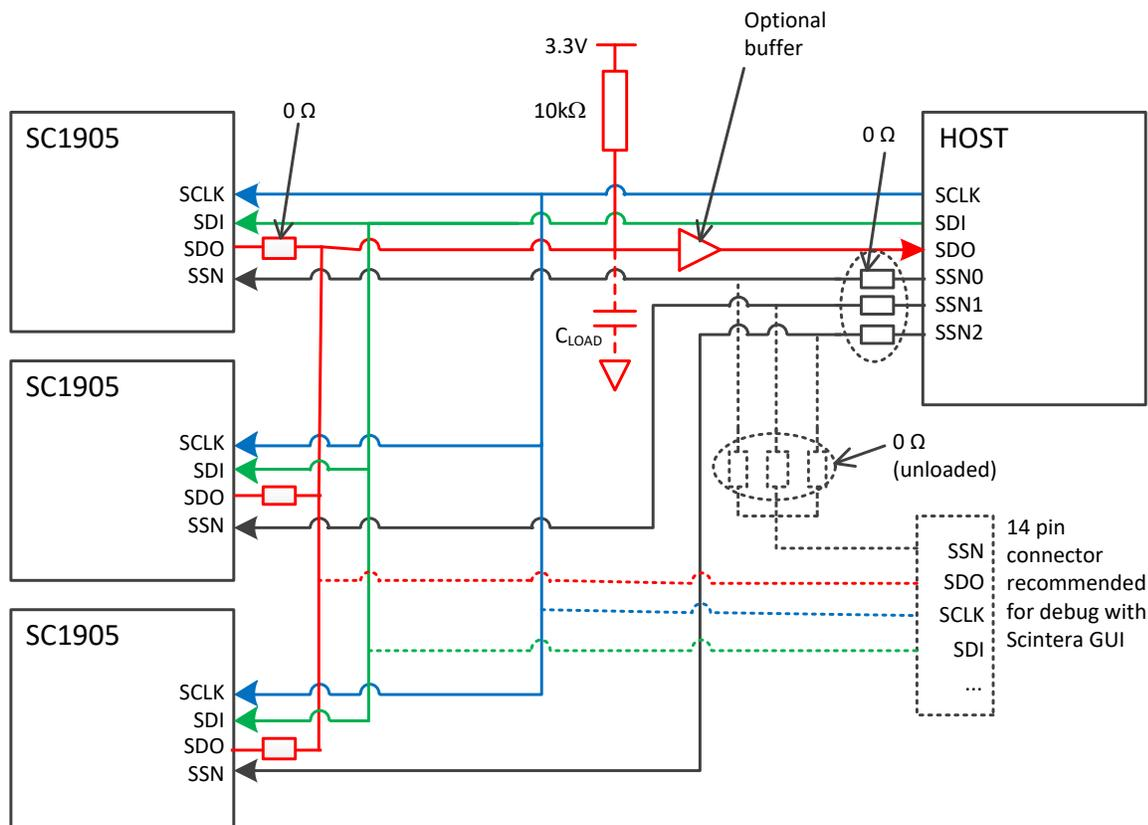

Figure 23. Host SPI connection for multiple SC1905 applications.
The SDI, SDO and SCLK signals can be shared amongst several SC1905 (**Figure 23**). One SSN per SC1905 is needed to communicate with a single linearizer. Special care must be taken when connecting long PCB traces at the SDO output since the capacitance ( $C_{LOAD}$ ) increases. Refer to section 9.2.6 to calculate the maximum speed at which the SDO pins can be read (including the parasitic load capacitance  $C_{LOAD}$ ).
The GUI can support only one RFPAL. Therefore, for multi-RFPAL applications it is suggested to include layout provisions for a series 0Ω resistors in the SDO line of each RFPAL as shown in Figure 23 and connect this component only for the SC1905 being tested to avoid any conflict with the inactive SC1905 while working with the GUI.
- b. If an SDO buffer is needed, the buffer must be placed after the point (a) as described in Figure 23.